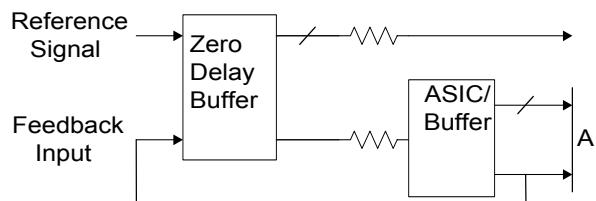

Figure 2. Six Output Buffers in the Feedback Path
Referring to Figure 2, if the traces between the ASIC/buffer and the destination of the clock signal(s) (A) are equal in length to the trace between the buffer and the FBIN pin, the signals at the destination(s) device will be driven HIGH at the same time the Reference clock provided to the ZDB goes HIGH. Synchronizing the other outputs of the ZDB to the outputs form the ASIC/Buffer is more complex however, as any propagation delay in the ASIC/Buffer must be accounted for.